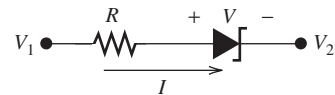
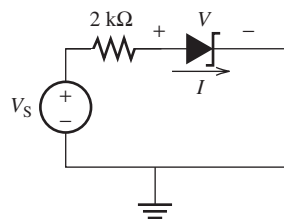

FIGURE 8.25 Circuit with a Zener diode.
FIGURE 8.26 Circuit for Example 8.7.
To explain the operation of a Zener diode, consider the circuit shown in Figure 8.25. Assuming a practical model, Table 8.2 summarizes the operation of the Zener diode. Observe that if the reverse voltage across the diode is more than V_z , the Zener diode will be equivalent to a constant voltage source with the value of $V = -V_z$.
For the circuit shown in Figure 8.26, the Zener diode has $V_z = 3.6$ V. Find I and V when:
- Refer to Figure 8.25, $V_S = -1$ V means $-3.6\text{ V} < V_1 - V_2 < 0$ V. Therefore, the diode is reverse biased, it is OFF, and the current flowing through it is $I = 0$. Applying KVL to Figure 8.26, the voltage across the diode corresponds to: